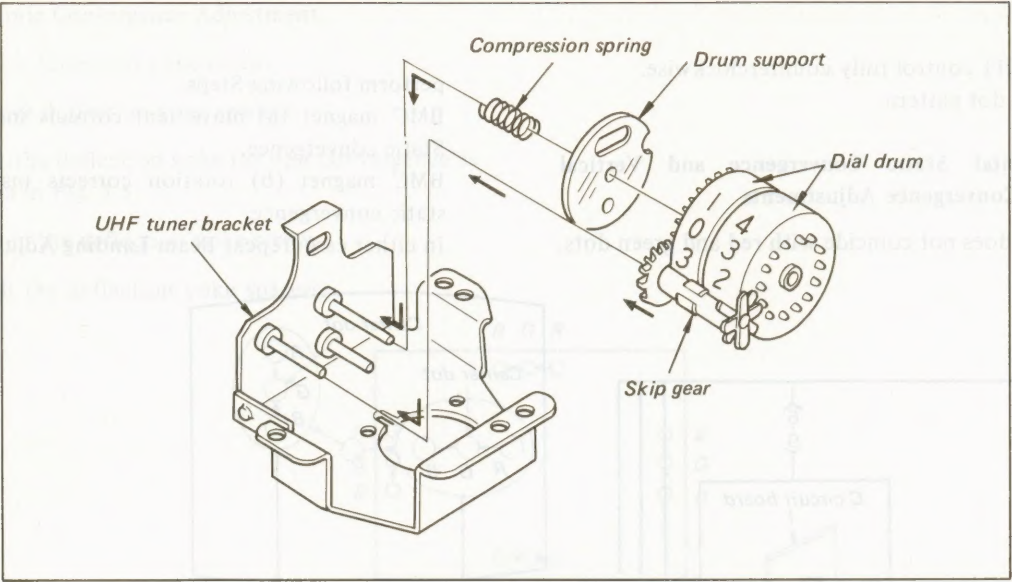

Fig. 2-6. UHF tuner dial calibration (2)
4. Install the compression spring and drum support on the drum shaft. Then, install the dial drums and the meshed skip gear (See Fig. 2-6).